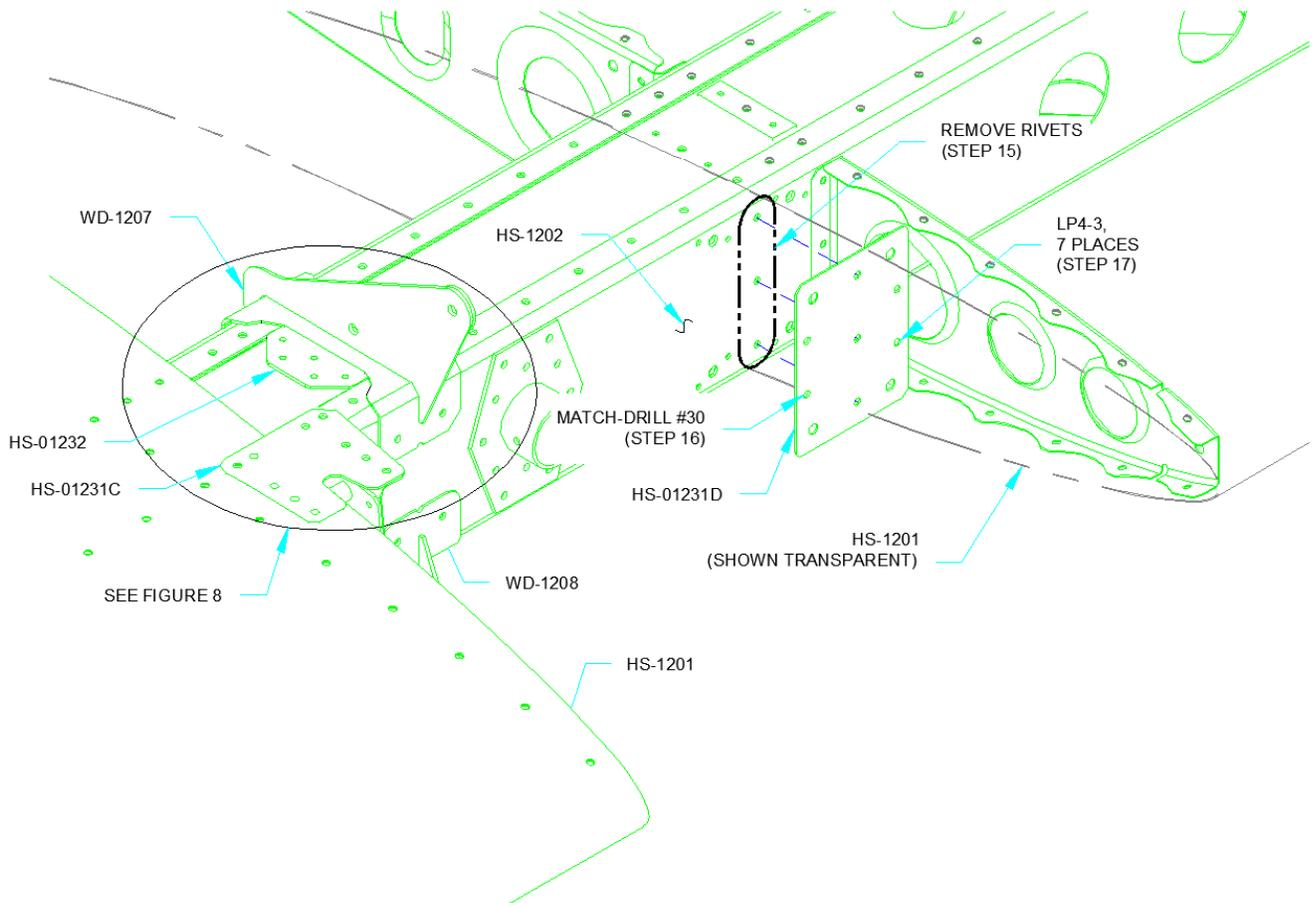

FIGURE 4: ADDING THE STABILATOR HINGE DOUBLERS
Step 15: Punch out the mandrels, then drill out #30 the three rivets common to the HS-1202 Fwd Spar and each of the HS-1212 Inspar Ribs (hidden from view). See Figure 4.
Step 17: Rivet both HS-01231D Stabilator Hinge Doublers to the HS-1202 Fwd Spar as shown in Figure 4.